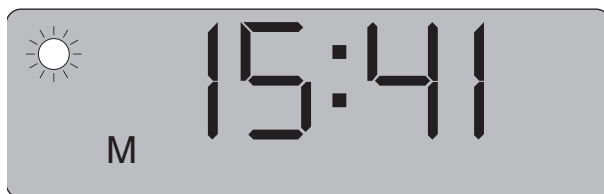

Fig. 3-6 Example: display after successful self-test
- whether or not data are stored in the BP monitor (**M**) (Fig. 3-6).